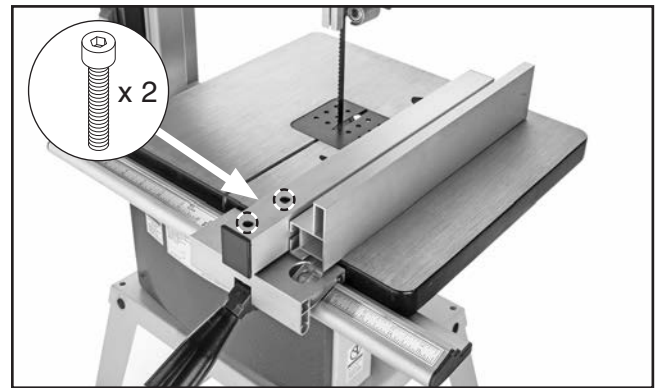

Figure 35. Location of fence adjustment cap screws.
4. Loosen (2) fence adjustment cap screws (see **Figure 35**), adjust fence parallel with miter slot, then tighten cap screws to secure setting.